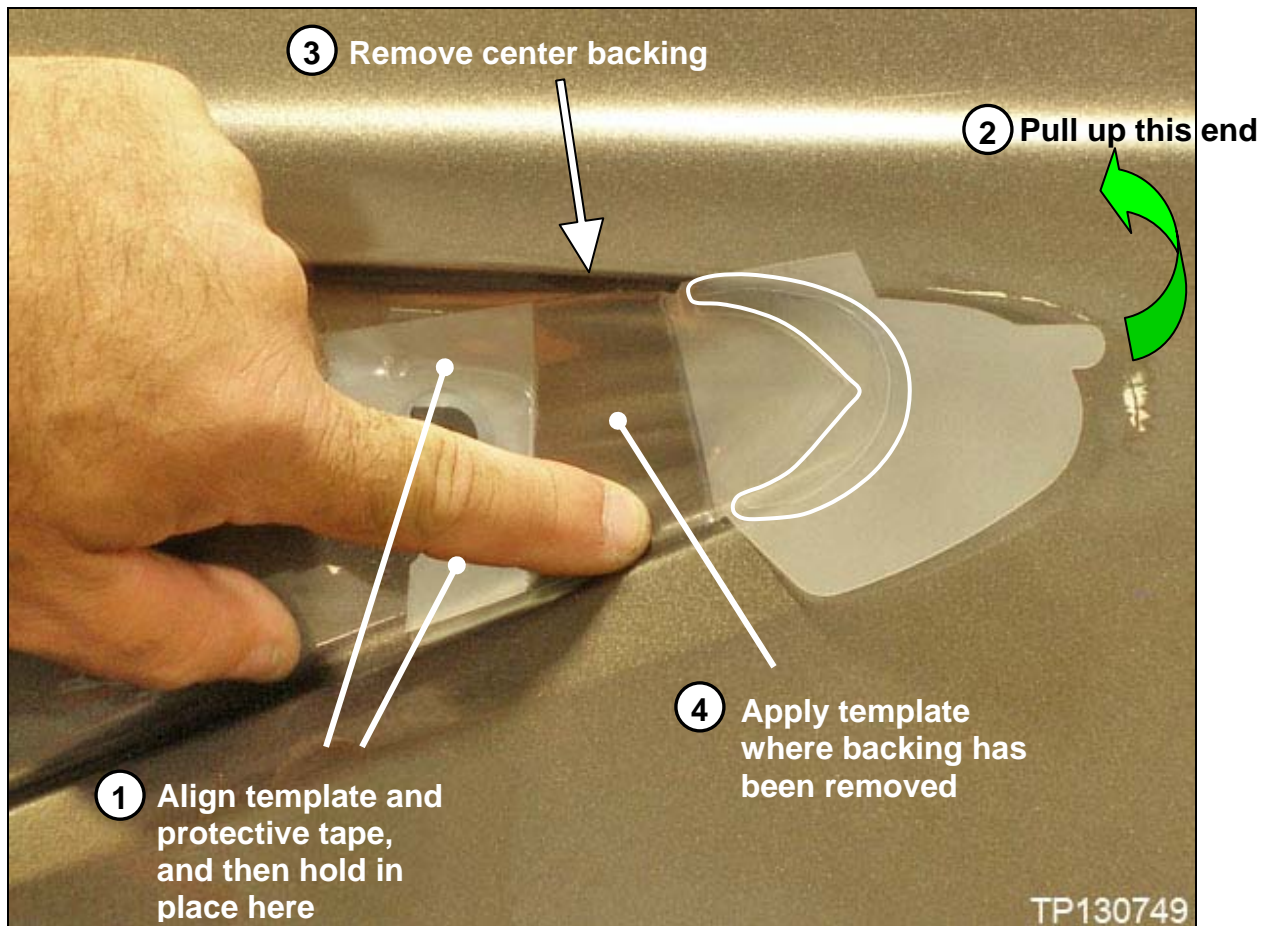

Figure 5
- Apply the template as instructed in Figure 5.